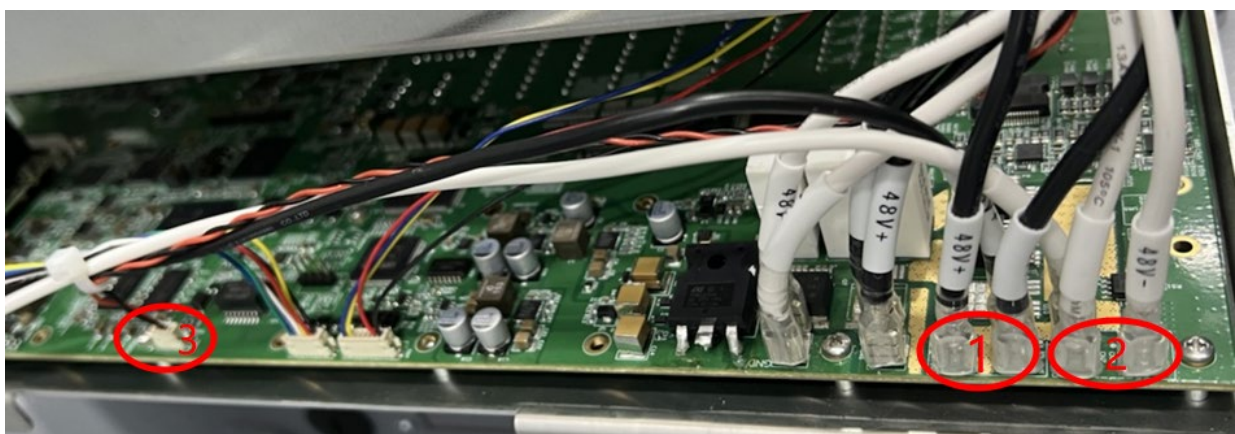

Figure 3-28 Cable location on Safe IO
- Disconnect the cable from the robot arm to Safe IO as shown in Figure 3-28: